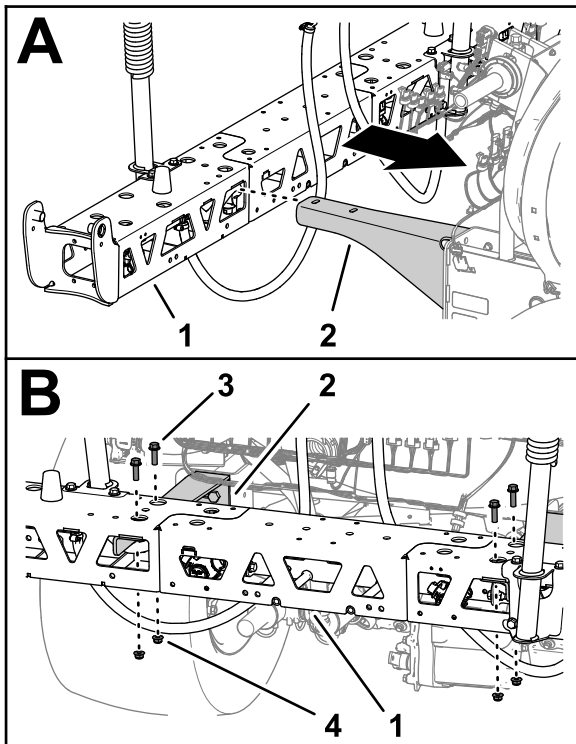

Figure 95
- Using lifting equipment with the specified lift capacity, raise the center-spray section and align the spray section with the holes in the support brackets (Figure 95).
- Assemble the center-spray section to the support brackets (Figure 95) with the 4 flange-head bolts (3/8 x 1-1/4 inches) and 4 flange locknuts (3/8 inch) that you removed in Removing the Center-Spray Section (page 28).